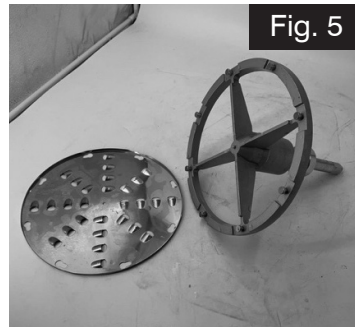

Fig. 5
1. Place the disc on the shaft so that the cutting edges face you. (Fig. 5)